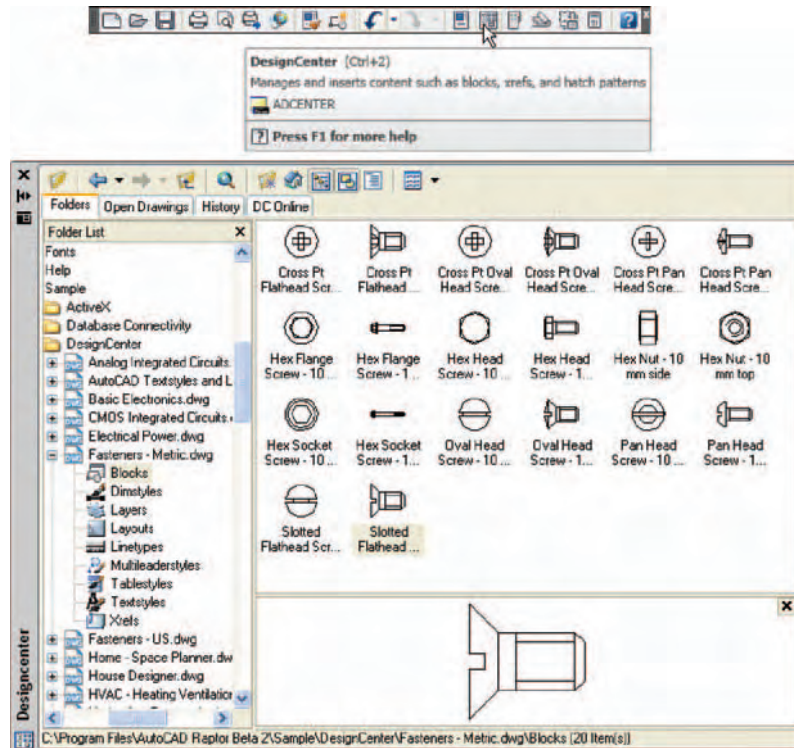

Fig. 1.11 A left-click on the DesignCenter icon brings the DesignCenter palette to screen
- **DesignCenter** palette: Fig. 1.11 shows the **DesignCenter** palette with the **Block** drawings of electronics circuit symbols from an AutoCAD directory **DesignCenter** from which the file **Fasteners – Metric.dwg** has been selected.